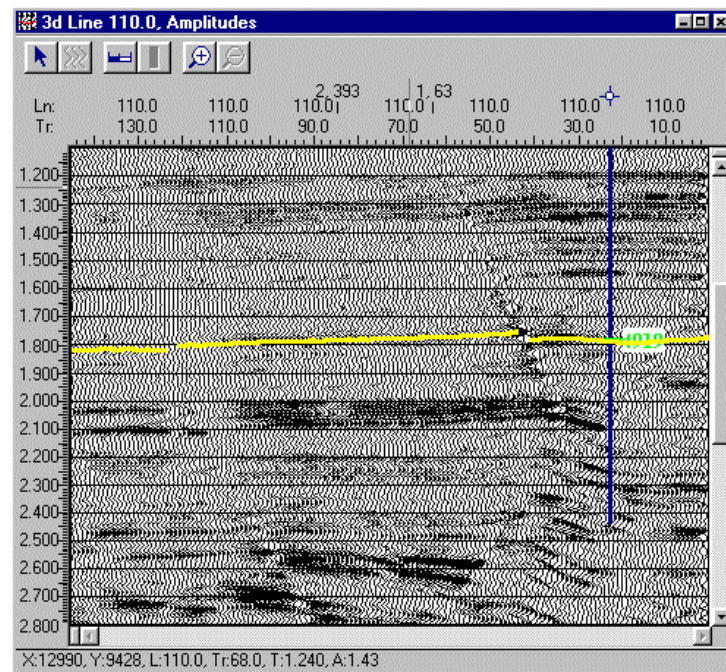
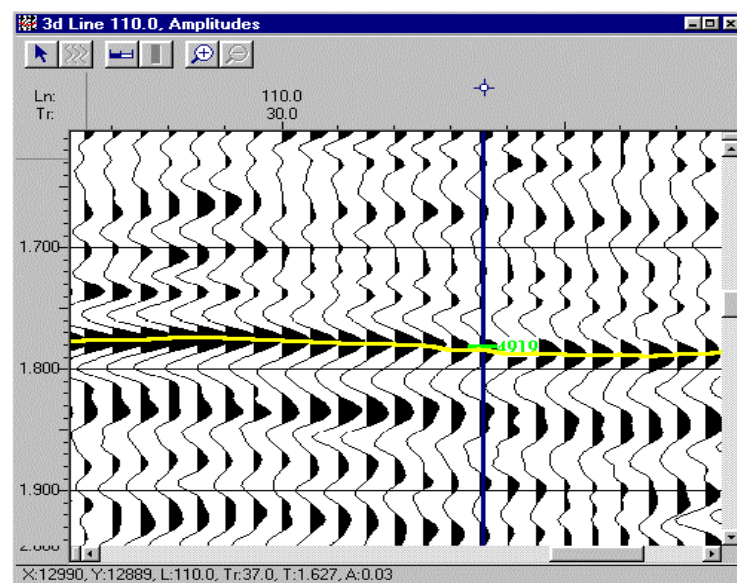

Figure 3: Variable area wiggle trace display format of Line 110.
Figure 4: Closeup view obtained using 5 traces per inch and 10 inches/seconds.
3. If you are accustomed to **wiggle trace overlay**, left click on View and Type of Plot and select Wiggle Variable Area. You may need to change the scale in order to display properly. The variable area wiggle trace display will appear as shown below (Figure 3). Note the other display formats for future reference.
4. **To change the display scales**, left click on View and Set Display Scales or click on the scale bar at the top of the seismic line display window. Try 5 traces per inch and 10 inches per second to provide a closeup (Figure 4) view of waveform character in the vicinity of the well shown above (Figure 3). Use the scroll bars to position yourself within the line.
5. You can ***orient yourself*** to geographical directions by moving the cursor on the seismic window (Figures 3 or 4) and watch the cursor movement on the map. If the direction is backwards hit the R key on the keyboard to reverse the line direction.